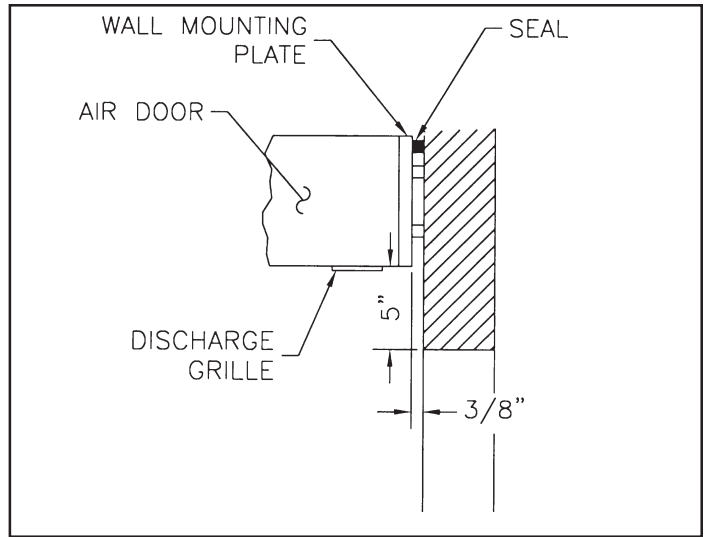

FIGURE 7B - High Wall Mounting
**HIGH WALL MOUNTING:** If the wall mounting plate must be mounted higher than 4" above the door opening, it must be spaced out from the wall 3/8" for every inch the unit is above the door opening. See Figure 7B.